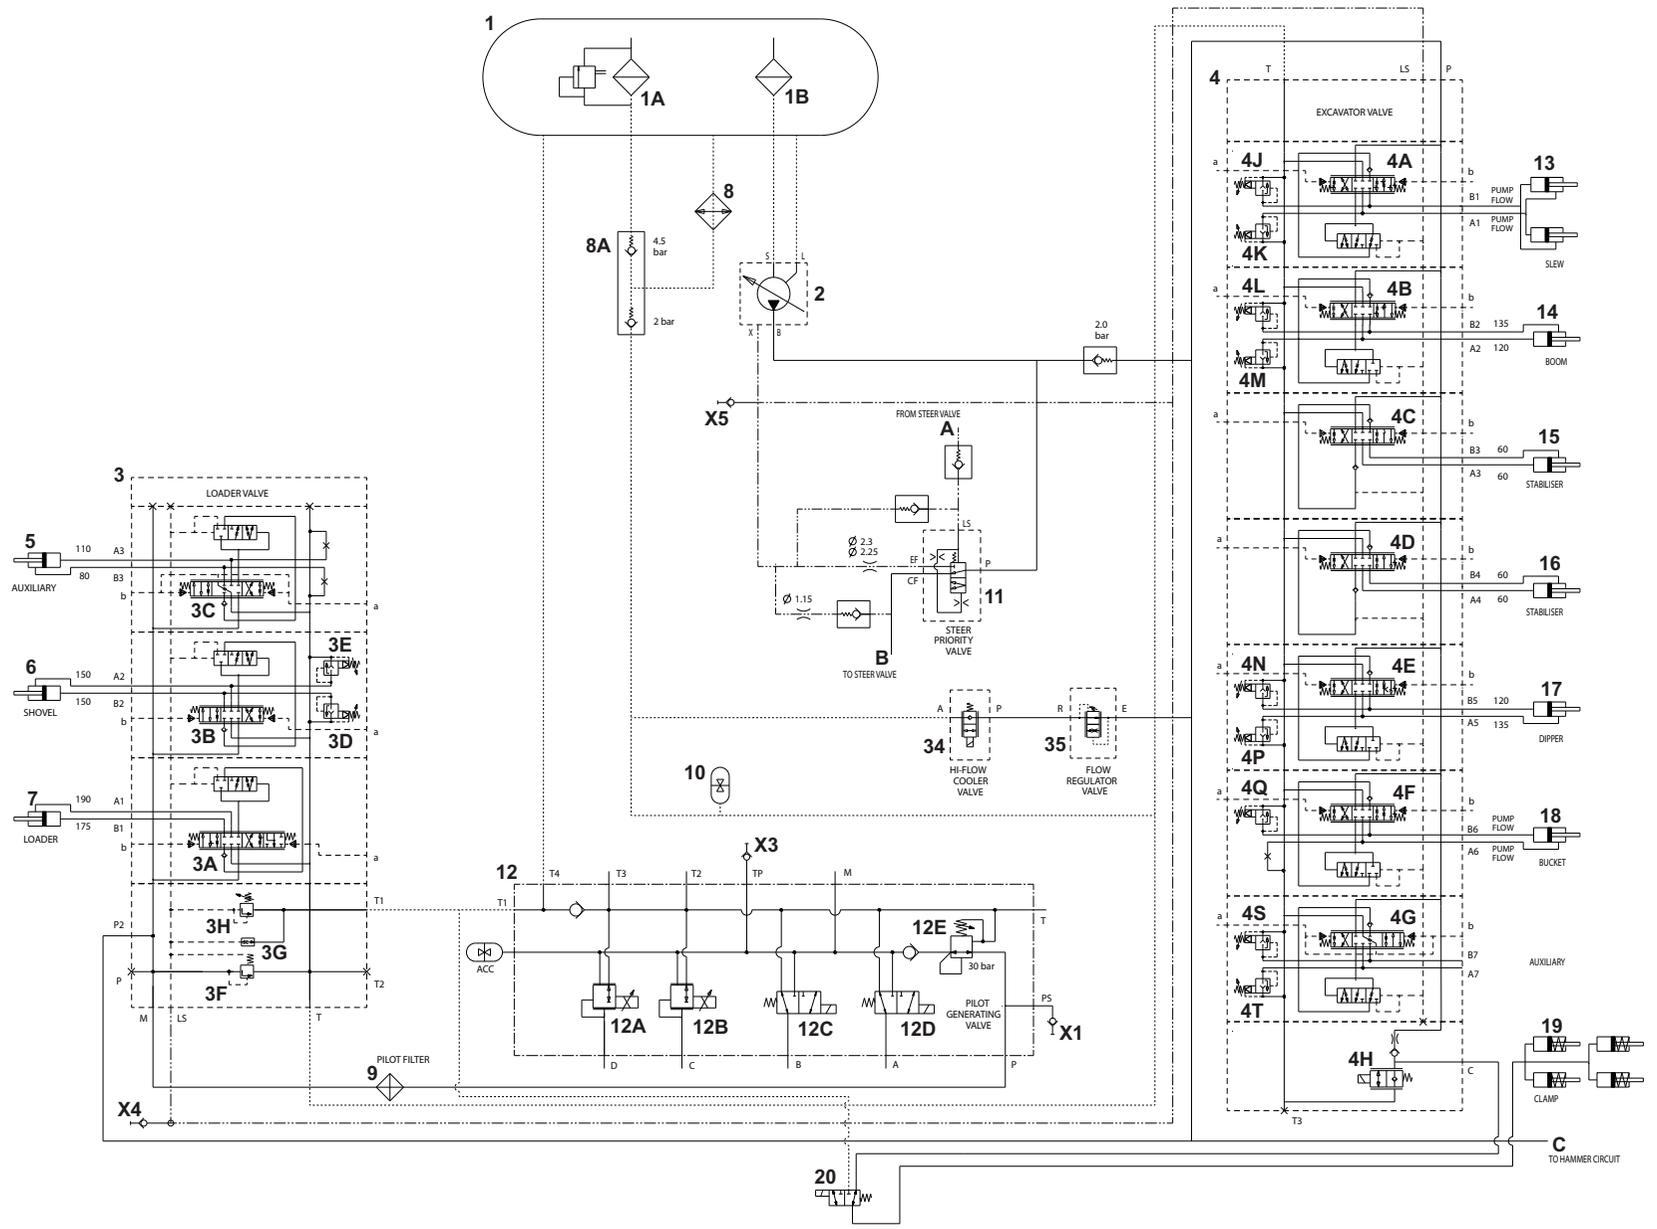

Fig 8. Main Circuit, Sheet 1 of 6
Component Key: Sheet 1 of 6 → Fig 8. (□ L-111)
- C From C ⇒ Fig 8. (□ L-111)